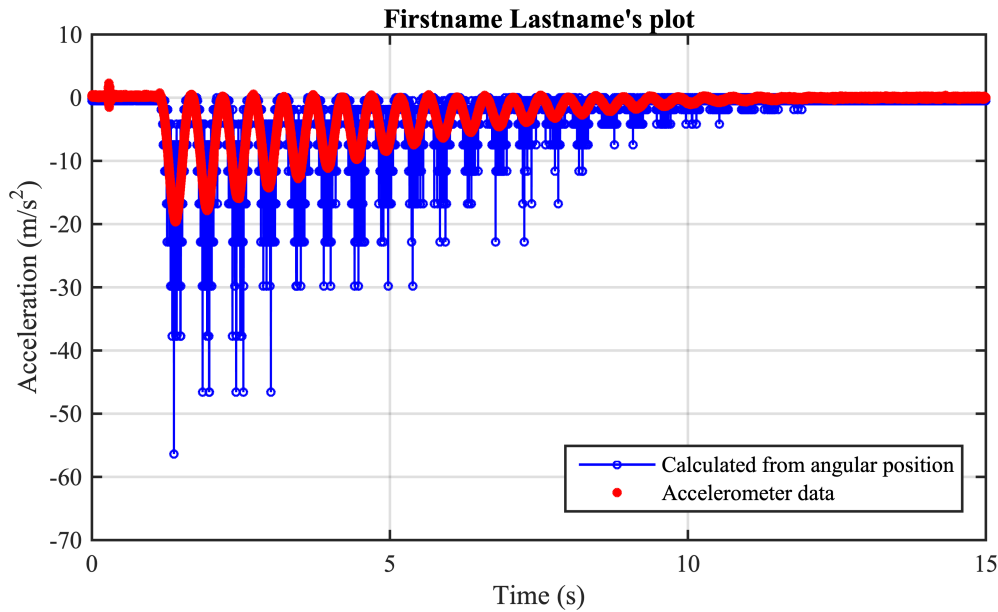

Figure 4: Sample post-process plot.
4. Sample plot is shown in Figure 4.
- Compare your plots to the example plots shown in Figure 4 to confirm that you have completed the assignment correctly. Note that your values will differ, but your formatting and annotation should match.